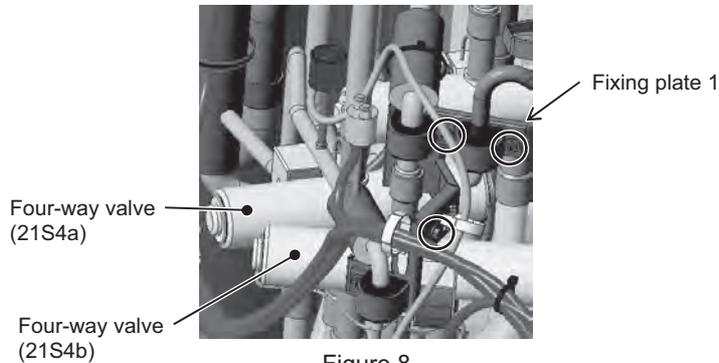

Figure 8
- (1) Remove the front heat exchanger. Refer to 8-12-11 Maintenance Procedures for the Heat Exchanger <Type A> or 8-12-12 Maintenance Procedures for the Heat Exchanger <Type A1> for details.
- (2) Remove the top, front, and right compressor covers. Refer to 8-12-6 Compressor Replacement Procedure <Type A> or 8-12-7 Compressor Replacement Procedure <Type A1> for details.
- (3) Remove the fixing plate 1 above four-way valve (21S4b), saddle, and rubber spacer by unscrewing the three screws shown in Figure 8.